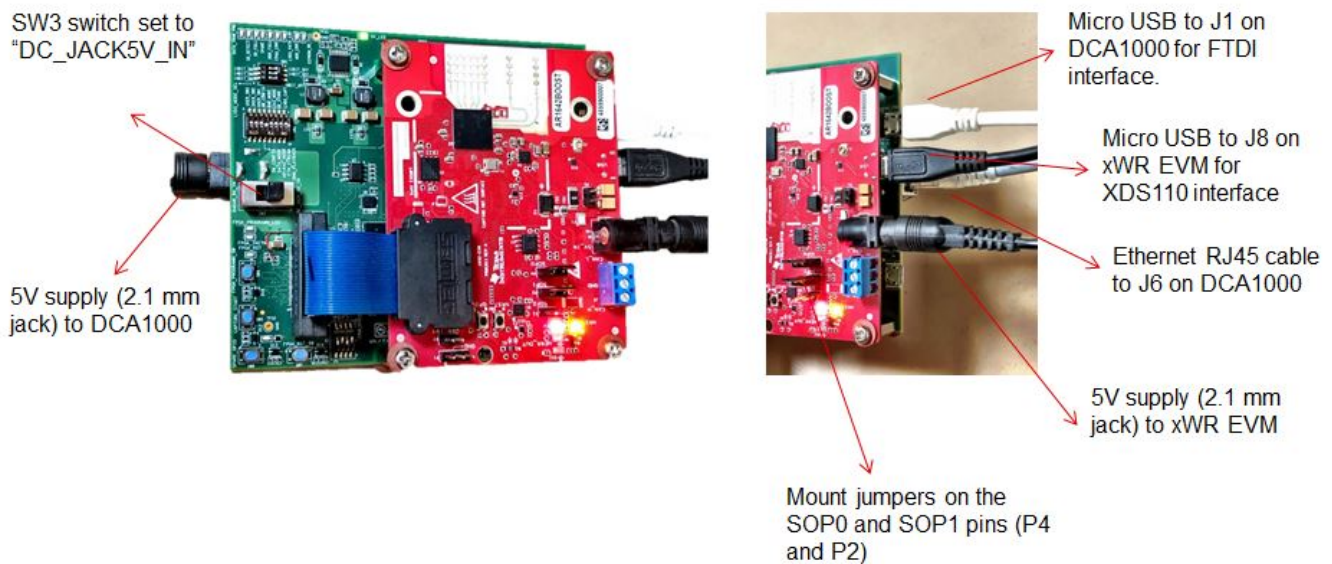

Figure 2. Data and Supply Cable Connections
- Connect the microUSB and Ethernet cables to the PC interface, as shown in Figure 2. The DCA1000 and the xWR EVM are powered with 5-V, 2.5-A supplies.